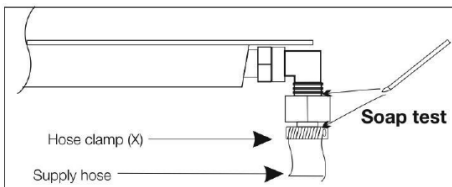

Fig 8
- The supply hose must be visible for its entire length (max. one meter) and must be secured with a hose clamp X (Fig 8). The sealing washer must be fitted.
- Apply soapy solution to each joint. (Figure 8)